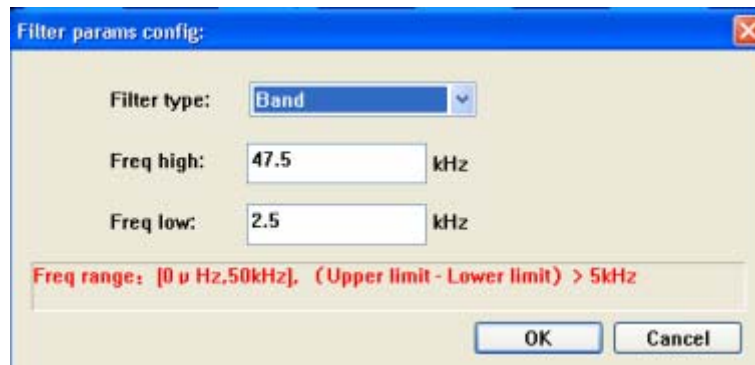

Fig.4-11
**Filter:** It is used for filtering the imported waveform to filter the signals beyond the cutoff frequency band. There are three filtering types including band-pass, high-pass and low-pass for choosing. See Fig.4-11.